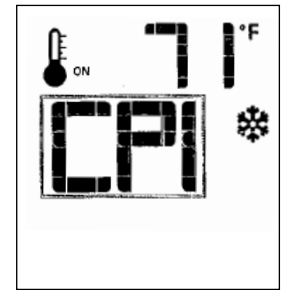

Fig. 14.5. CPI ON.
- With the transmitter in the OFF position, press the transmitter Mode key - IPI is the default mode. Fig. 14.4. Press the Up arrow to index to the CPI icon and activate the Continuous Pilot Ignition mode. Fig. 14.5. Pressing the Down Arrow Key will return to Intermittent Pilot Ignition. A single “beep” will confirm reception of the command.